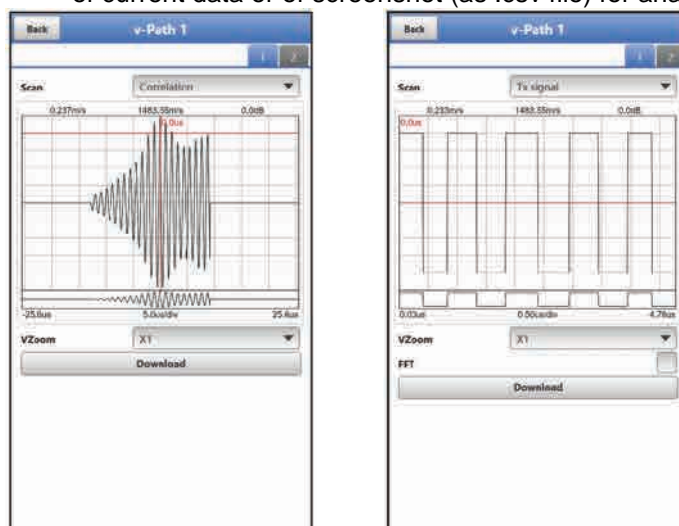

Fig. 49-4 Correlation / Tx signal
- **>Correlation<** (Fig. 49-4)
- **>Tx signal<** (Fig. 49-4)